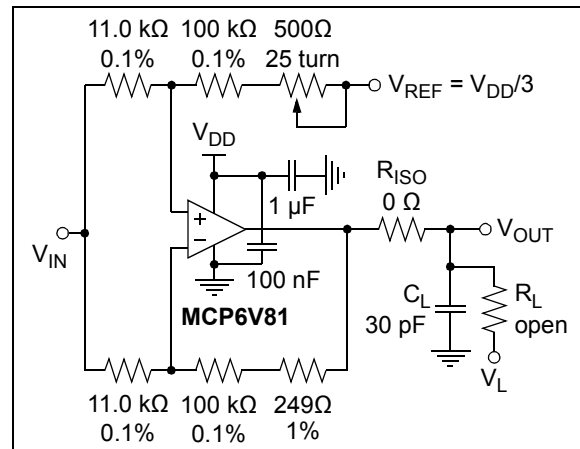

FIGURE 1-6: Test Circuit for Dynamic Input Behavior.
- Note 1:** These parameters were characterized using the circuit in Figure 1-6. In Figures 2-39 and 2-40, there is an IMD tone at DC, a residual tone at 1 kHz and other IMD tones and clock tones. IMD is Referred to Input (RTI).
The circuit in Figure 1-6 tests the input's dynamic behavior (i.e., IMD, t_{STR} , t_{STL} and t_{ODR}). The potentiometer balances the resistor network (V_{OUT} should equal V_{REF} at DC). The op amp's common-mode input voltage is $V_{CM} = V_{IN}/2$. The error at the input (V_{ERR}) appears at V_{OUT} with a noise gain of 10 V/V.